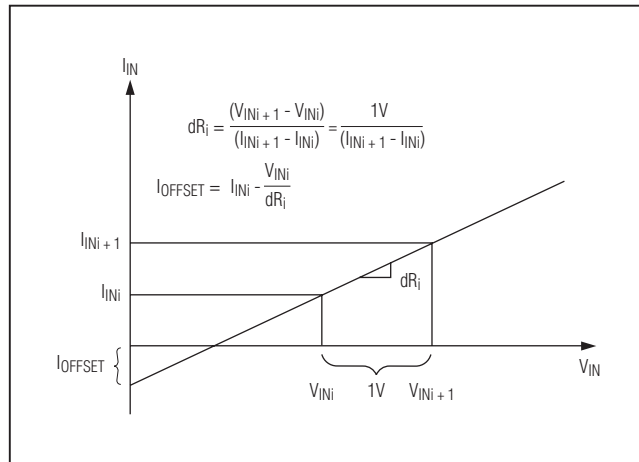

图1. 有效差分输入电阻/偏移电流
**Note 4:** The input offset current is illustrated in Figure 1.
**Note 5:** Effective differential input resistance is defined as the differential resistance between  $V_{DD}$  and  $V_{SS}$ . See Figure 1.